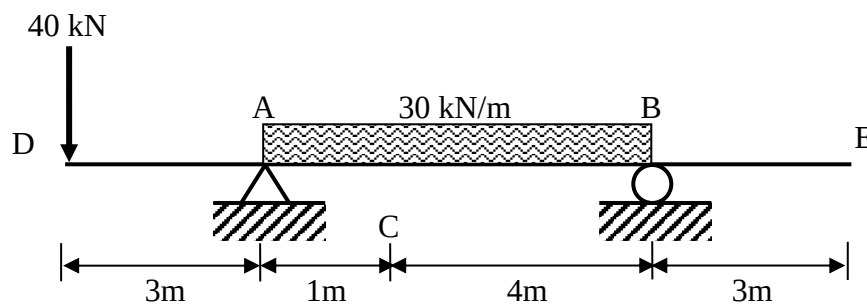

Figure 2(a) / Rajah 2(a)
- CLO1 (a) A beam with overhangs at both ends is subjected to external loads, as shown in Figure 2(a). Using the Influence Line Diagram method, illustrate the Influence Line Diagram for shear force and bending moment at point C.